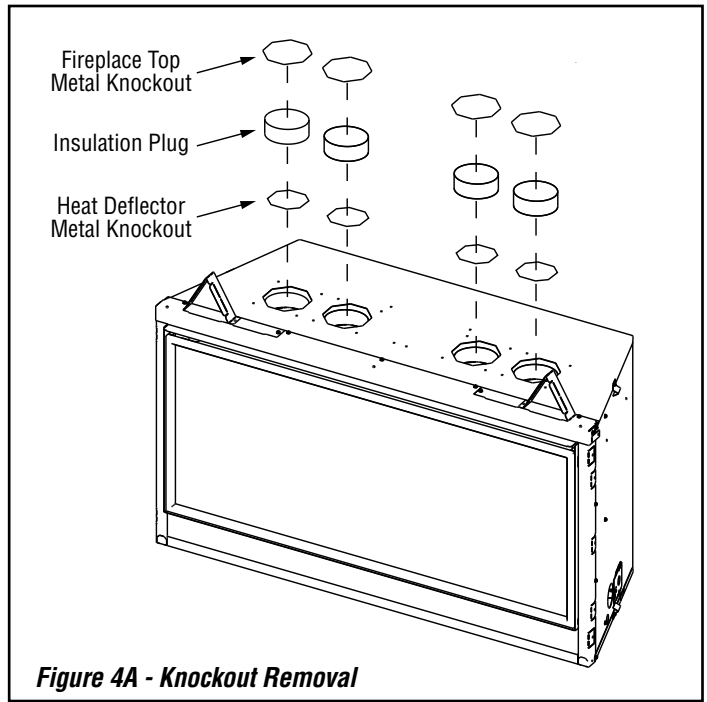

Figure 4A - Knockout Removal
- 1a. Using a pair of tin snips, remove four knockouts in fireplace top and discard (**Figure 4A**).
- 2a. Remove four precut plugs in insulation between fireplace top and inner heat deflector (**Figure 4A**).
- 3a. Remove four knockouts from inner heat deflector (**Figure 4A**).